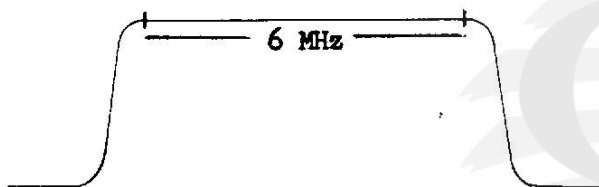

Figure 4-3. Input-Filter Response
5. Adjust C102, C103, C106, C109, C111 and C114 to give a 6.0-MHz bandpass similar to that shown in Figure 4-3.